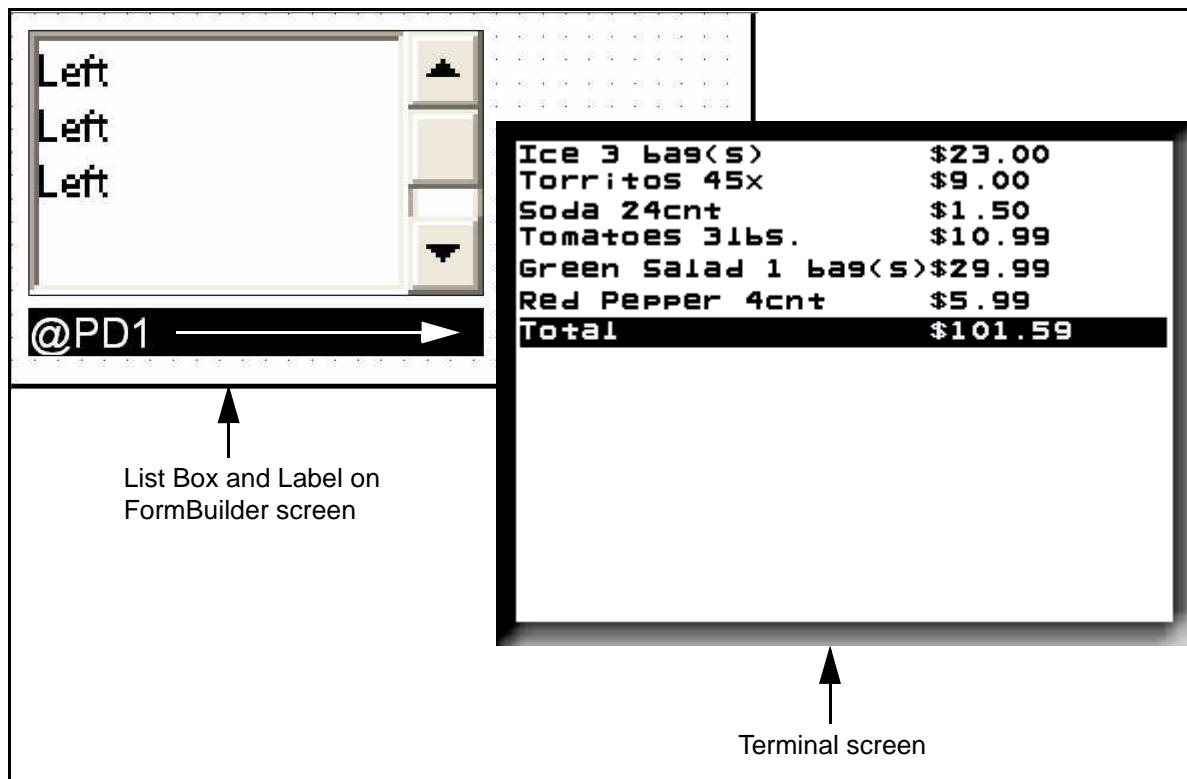

Figure 2-40 Pole Display and Label Containing @PD1
5. To add a Subtotal, Tax, or Total to the screen, use labels containing @PDs. In the example shown in Figure 2-40, a Total (a label containing @PD1) is added below the receipt items (list box).